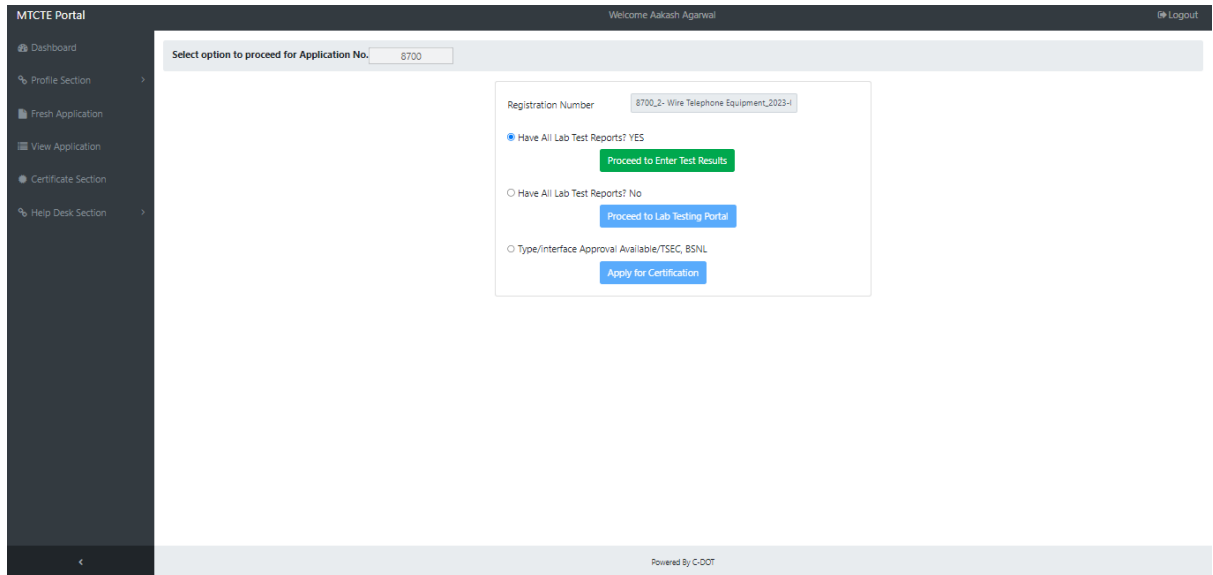

Fig. 59: Test reports availability
- vii. On the next page, Applicant will be shown following three options (Fig 59):